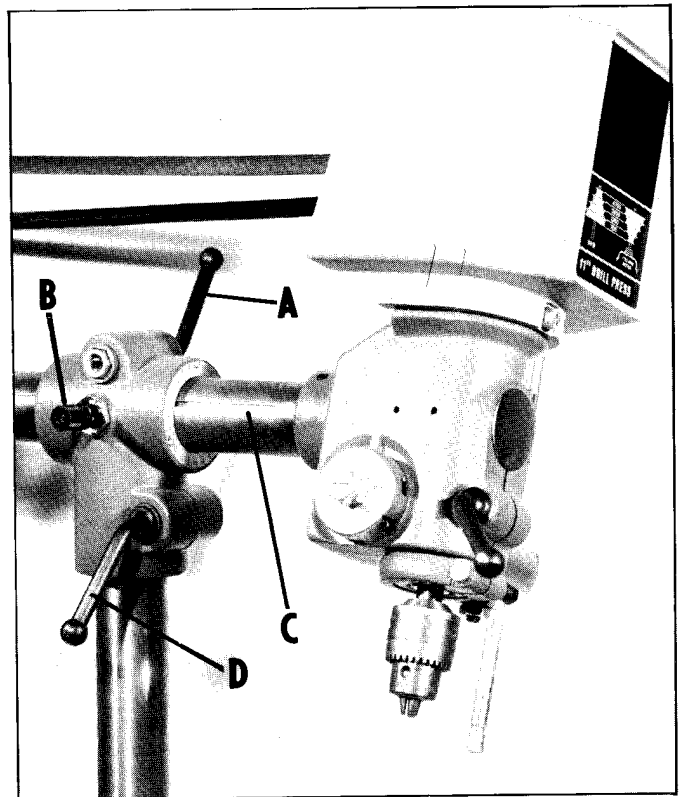

Fig. 18
The head can be tilted right and left simply by loosening the horizontal column clamp (A) Fig. 18, and pulling out the plunger (B). Tilt the head to the desired angle and lock the horizontal column clamp (A). When returning the head perpendicular to the table, make sure the end of the plunger (B) is engaged in the milled slot (C) in the horizontal column and lock the horizontal column clamp (A).
Head can be swiveled 360 degrees around the column simply by loosening the vertical column clamp (D) Fig. 18, and rotating the head and tee bracket to the desired position and tightening the vertical column clamp (D).